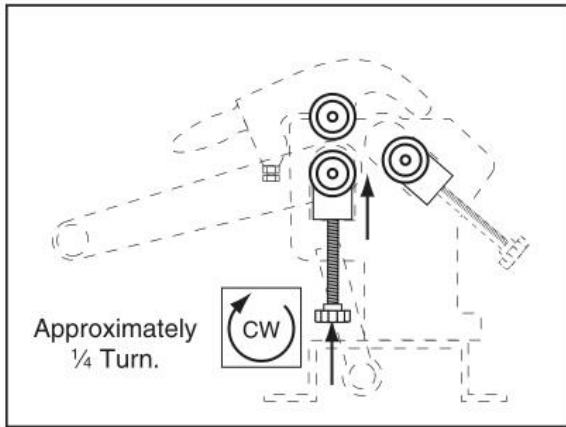

Figure 11
2. Remove the workpiece from between the rollers, then raise the bottom roller slightly by rotating each thickness adjust knob approximately 1/4" turn. Also, make sure the rear roller is lowered completely and will not interfere with the workpiece as it exits the machine (figure 11).